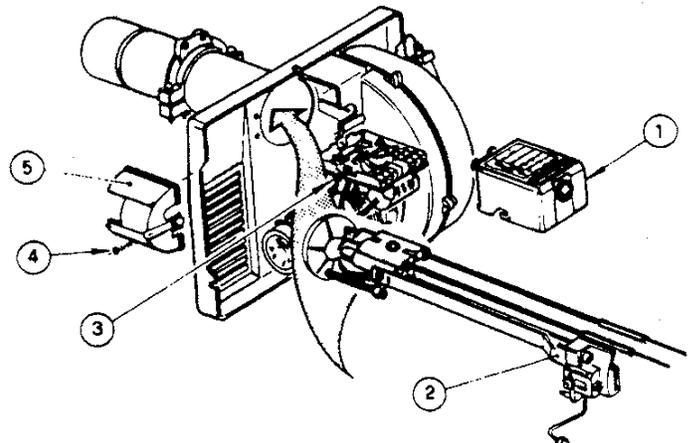

Figure 5: Installation/Removal of Riello Drawer Assembly
- n. Swing igniter closed, rotate tabs and tighten two (2) igniter screws.
a. **Installation/Removal of Drawer Assembly**, refer to Figure 5.
- Loosen SCREW (3), and then unplug PRIMARY CONTROL (1) by carefully pulling it back and then up.